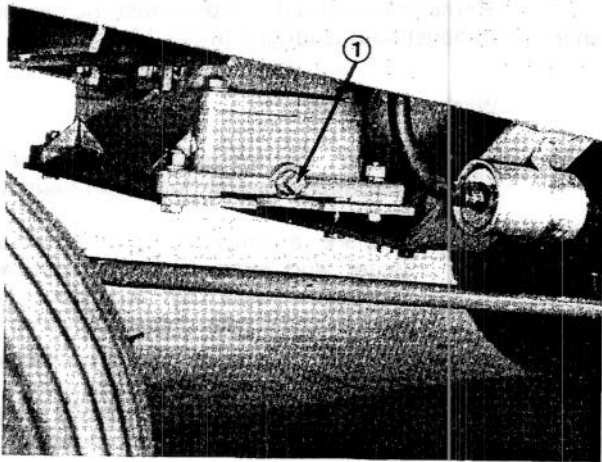

Figure 64
1. Place an oil drain pan below the drain plug on right side of crankcase. Clean area around drain plug (Fig. 64).